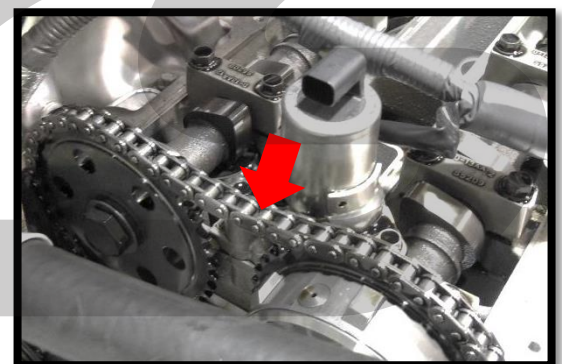

Figure 3p
- p) This process of locking the chain tensioner rail should result in a small amount of slop in the timing chain. To check if the rail has been locked properly, turn the exhaust camshaft slightly in both directions and verify there is some slop in the chain (Figure 3p).